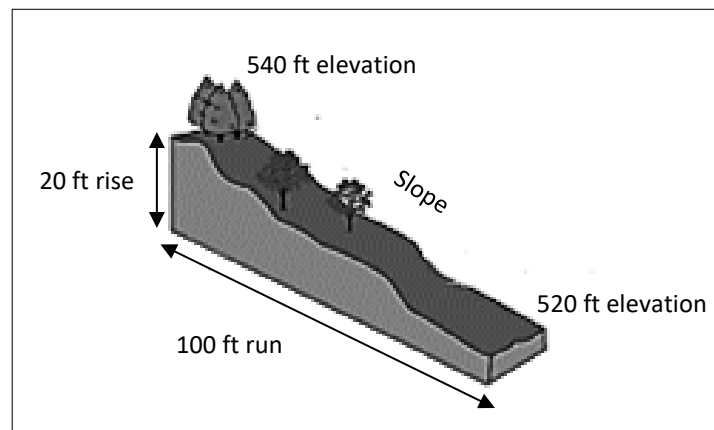

Figure 8-10. Slope is the vertical rise or fall over a given horizontal distance.
- ❑ **Slope.** Slope is the vertical rise or fall over a given horizontal distance (Figure 8-10). The steeper the slope the less suitable the site. Low infiltration rates on steep slopes encourage runoff and soil erosion. The steeper the slope, the faster the runoff flow and the more soil particles it carries away. Soils on steep slopes are thinner, provide less treatment, and are less productive.